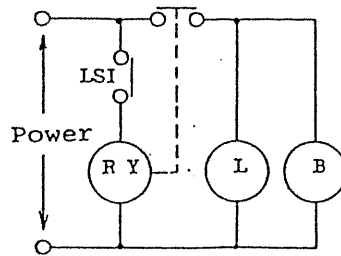

Fig. 2
- o If the maximum load current exceeds the maximum breaking current, or exceeds the maximum breaking capacity, an auxiliary relay must be used as shown in Fig. 2.